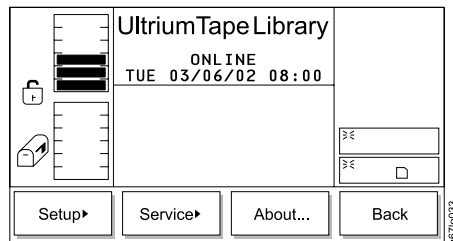

Figure 225. Main Menu (alternate screen)
1. From the Main Menu's initial screen, press the button below the **More** softkey. The Main Menu's alternate screen displays (see Figure 225).